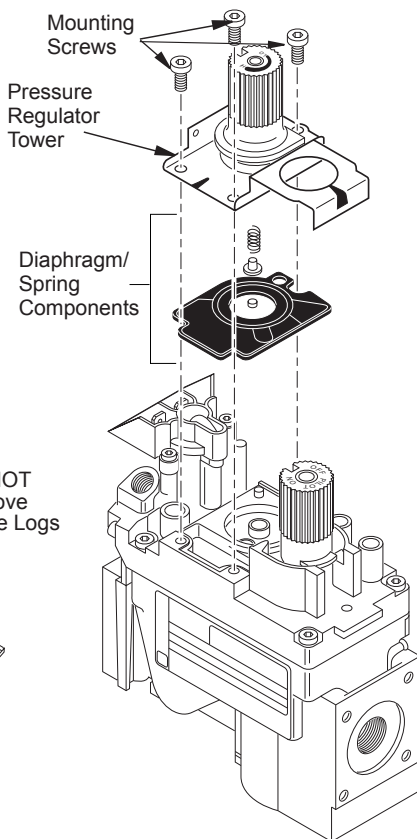

Figure 4 - Removing Mounting Screws, Pressure Regulator Tower and Diaphragm/Spring Components
1. Using a Torx T20 or slotted screwdriver, remove and discard the three mounting screws, pressure regulator tower and diaphragm/spring components (see Figure 4).